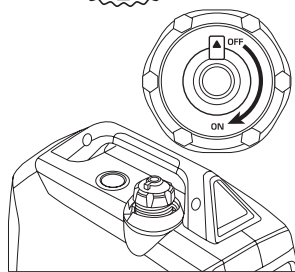

Fig. 2
3. Open the vent on the fuel cap to the "ON" position (fig. 2).